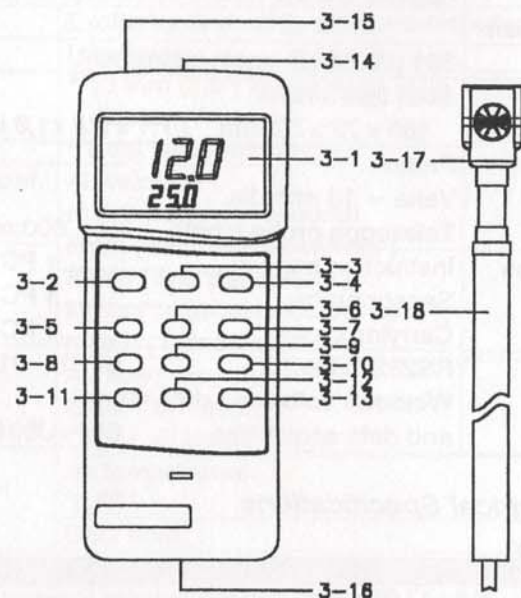

Fig. 1
- 1) Install the "Probe Plug" into the "Probe Input Terminal" (3-14, Fig. 1).
- 2) Power on the meter by pressing the "Power OFF/ON Button" (3-2, Fig. 1).
- 3) Select VELOCITY measuring mode by pressing "VEL./FLOW Button" (3-7, Fig. 1) to get into velocity measuring mode.
- 4) Select the desired temperature units, by pressing the "°C/°F Conversion Button" (3-4, Fig. 1).
- 5) Select the desired air velocity measurement units, (mph, ft/min, knot, Km/h, m/s) by pressing the "Unit/▼ Button" (3-6, Fig. 1).
During the measuring procedure, pressing the "Data Hold Button" (3-3, Fig. 1) will hold the measured value and the LCD will indicate "HOLD" symbol on the left.
* Press the "MAX/MIN/. Button" (3-5, Fig. 1) once a while to get into Data Record mode. A "REC" symbol appears on the LCD display. At the same time meter records value received by probe.
- 1) Install the "Probe Plug" into the " Probe Input Terminal " (3-14, Fig. 1).
- 2) Power ON the meter by pressing the " Power OFF/ON Button " (3-2, Fig. 1).
- 3) Select FLOW measuring mode by pressing " VEL./FLOW Button " (3-7, Fig. 1) to get into flow measuring mode.
- 4) Select the desired air velocity measurement units, (CMM or CFM) by pressing the " Unit/▼ Button " (3-6, Fig. 1).
- 5) Press " SAMPLE AREA Button " (3-13, Fig. 1) to set the measuring area (m^2 , ft^2) The more accurate area setting is the more accurate air flow value measured. When you press the button you may see a " □ " symbol appears and the fist digit sparkling. Now you can continue the area setting procedure.
- 6) Area setting producre uses four buttons " ▲ ", "UNIT/ ▼ ", " ► " and " MAX/MIN/. ". (please refer to Fig. 1 page 4)
During the measuring procedure, pressing the " Data Hold Button " (3-3, Fig. 1) will hold the measured value and the LCD will indicate " HOLD " symbol on the left.
The instrument features an RS232 output via 3.5 mm Terminal (3-15, Fig. 1).
- 2) Slide the Battery Cover (3-16, Fig. 1) away from the instrument and remove the battery.